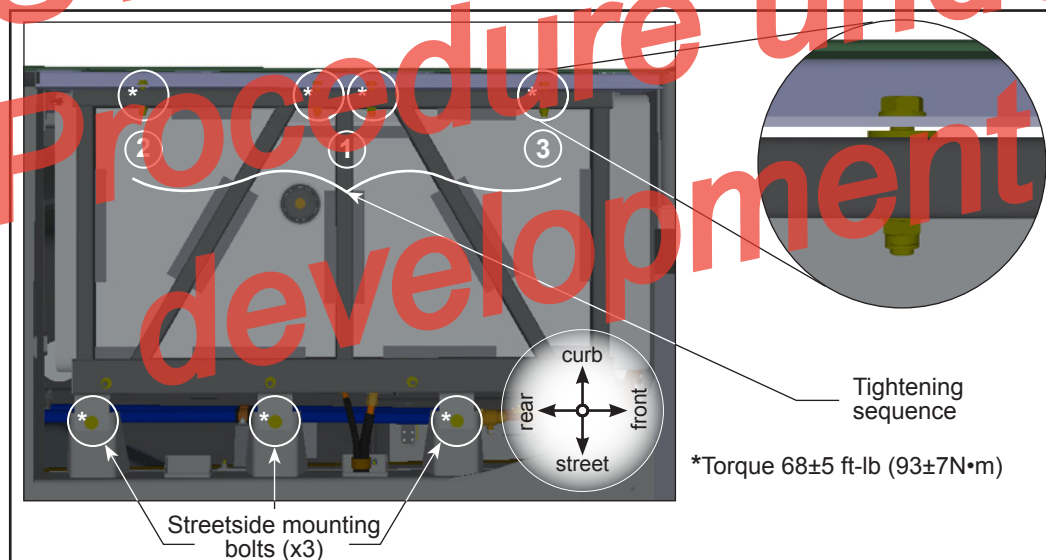

Figure 3 - Torque and Tightening Sequence
- 1.4. Tighten the four bolts fitted with a new washer according to the tightening torque and sequence indicated in Figure 3.
- 1.5. Tighten the three streetside bolts according to the torque indicated in Figure 3.